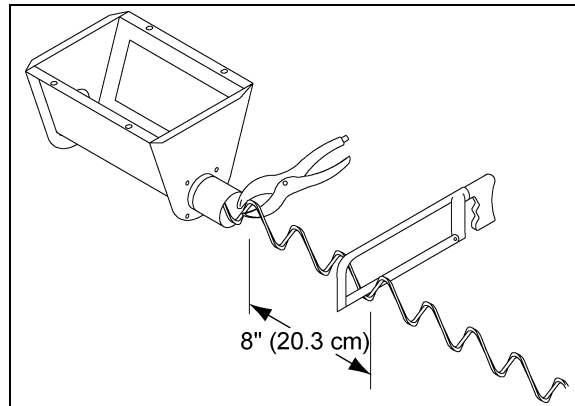

Figure 5W *Cutting the Auger*
8. For ease of trimming the auger, pull the auger out an additional 8" (20 cm) past the mark and clamp it at the unloader. *(See Figure 5W.)*